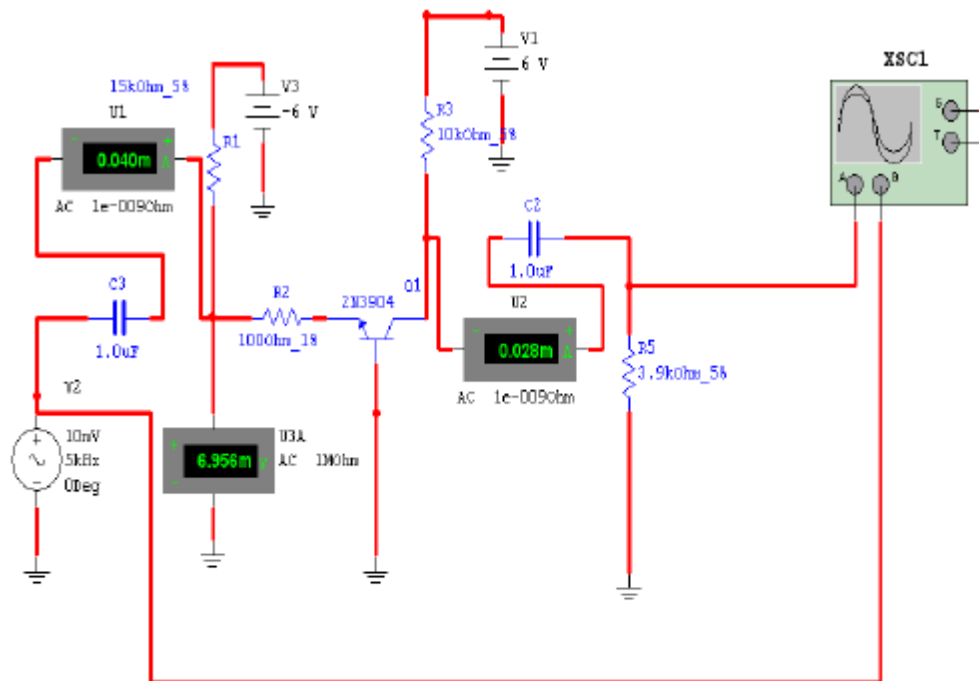

Fig.21 A CB amplifier connected to determine Z_{in} and A_v .
- Connect an AC ammeter to measure I_{in} ; Fig.21.
- Connect an AC ammeter to measure I_{out} ; Fig.21.
- Connect an AC voltmeter to measure V_{in} ; Fig.21.